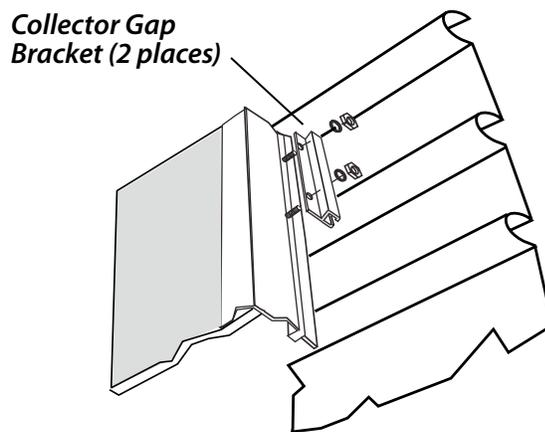

FIGURE 50
6. Insert two (2) 3/8" Bolts into the Bolt Track on the top of the Secondary Collector and install a Collector Gap Bracket to the mounted collector with the flange facing outward and located between the second and third Ridges from the outside of the Roof Panel as illustrated in Figure 50.